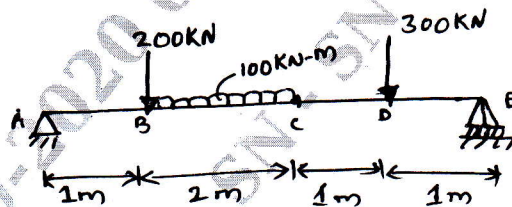

Fig.Q5(b)
b. A simply supported beam is loaded as shown in Fig.Q5(b). Determine the deflection at points B, C and D. Take  $E = 200 \text{ GPa}$  and  $I = 10^9 \text{ mm}^4$ .